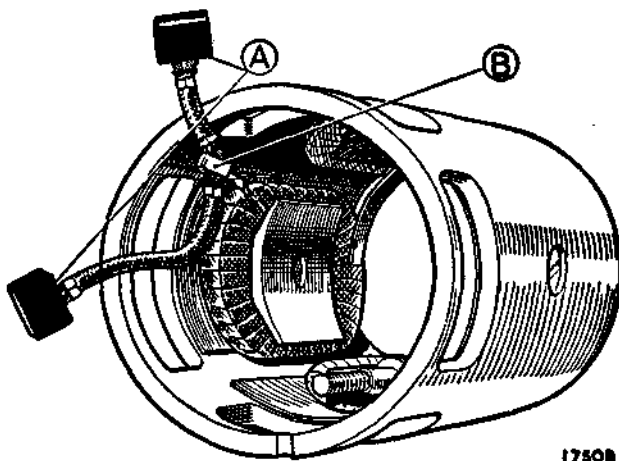

Fig. N.9
2. If the brushes are worn so that they no longer bear on the commutator, or if the flexible connector has become exposed on the running face, they must be renewed. Two of the brushes are connected to terminal eyelets attached to the brush boxes on the commutator end bracket. The other two brushes (Fig. N.9) are connected to tappings on the field coils.